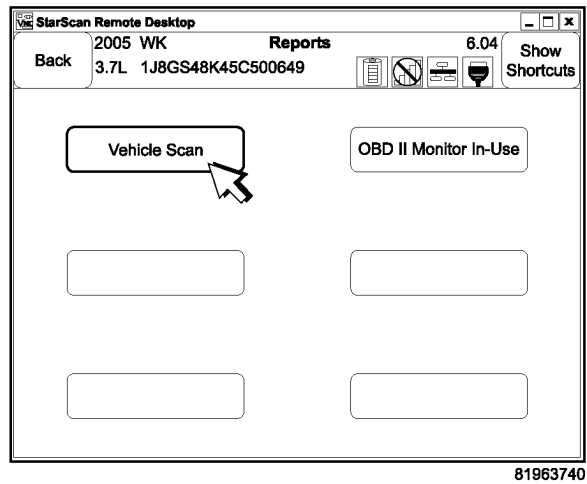

Fig. 3 REPORTS SCREEN
4. Select "Vehicle Scan" (Fig. 3).